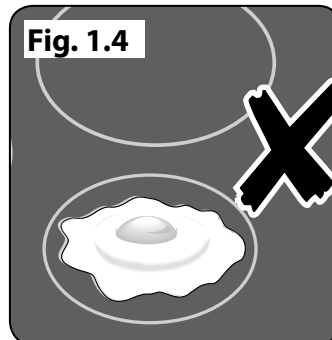

Fig. 1.4
- Only certain types of glass, glass-ceramic, earthenware or other glazed containers are suitable for hotplate cooking; others may break because of the sudden change in temperature. **NEVER** cook directly on the hob surface (**Fig. 1.4**).